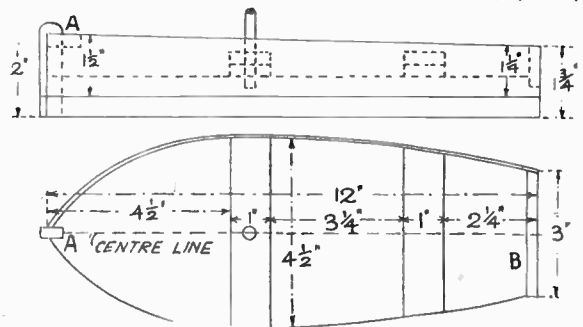
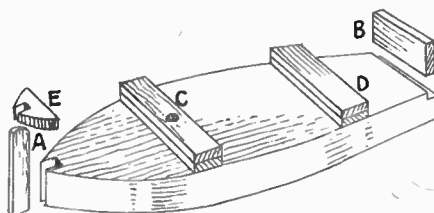
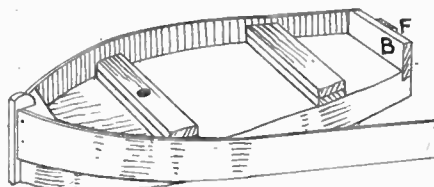

Fig. 1—Side view and plan with dimensions
Fig. 2—Showing details of construction
Fig. 3—How sides are fitted
Next cut a little notch in the bow or pointed end for the piece (A). This piece is 2½ ins. long by ½ in. wide and ¼ in. thick. The stern board (B) will be 3 ins. long by 1 in. wide by ¼ in. thick and it will rest in a shallow rebate cut in the hull, as seen in Figs. 2 and 3.
Next there are the cross pieces (C) and (D) (Fig. 2) and each is made up of two thicknesses of ¼ in. pinned together. The lengths of these pieces can be calculated from the plan (Fig. 1) after the measurements shown are set out on the hull piece. Clean off the ends of the pieces level with the hull sides so that the correct curve is preserved throughout.
For the sides of the boat take the measurements direct from the already made-up hull, allowing a trifle in length for chamfering at the bow and fitting to the stern. Thin wood should be used for the sides, and from the side view, above the plan, in Fig. 1 it can be seen
A general clean up should now be made, and the sides and hull gone over with fine glasspaper. To strengthen the fixing between the sides and the bow upright glue in the shaped piece (E), as seen in Fig. 2. The actual size of the piece is marked out direct from the model. See the actual piece fixed in place, Fig. 3.